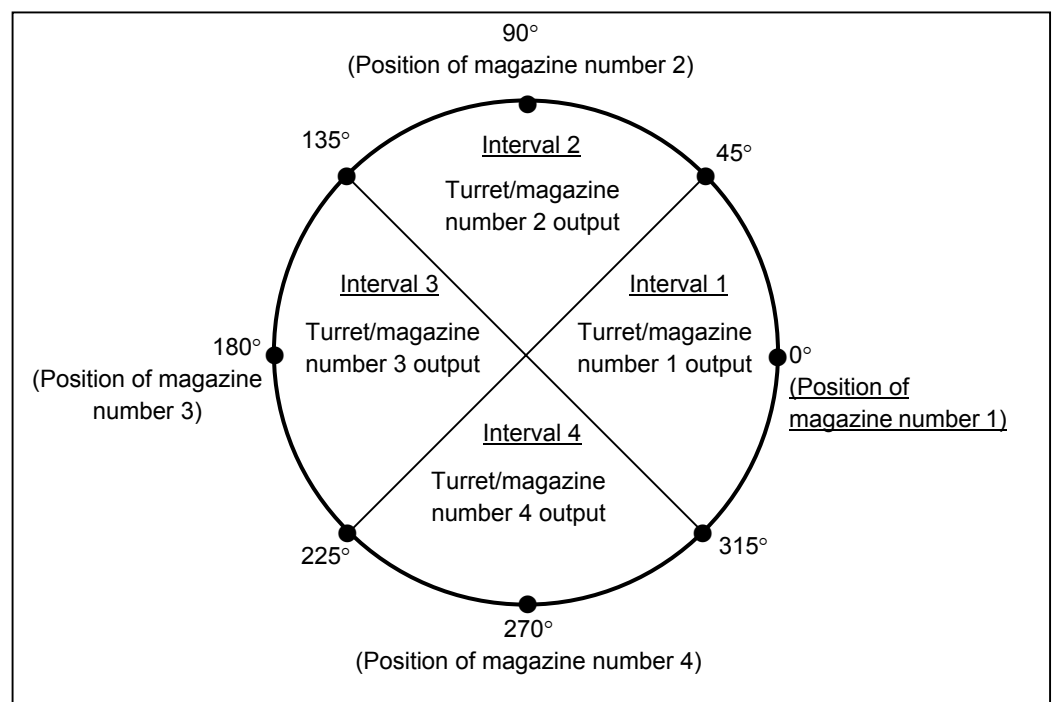

Fig. 3.9.2 (a) Turret/Magazine Number Output Example
- (1) The turret/magazine number based on the current position is constantly output.
- The nearest turret/magazine number is output even if the current position is not a magazine position. For example, if one rotation about the rotation axis is by "360°" and the number of magazine/turret numbers (parameter No. 068) is "4", the turret/magazine number is output as shown in Fig. 3.9.2 (a).